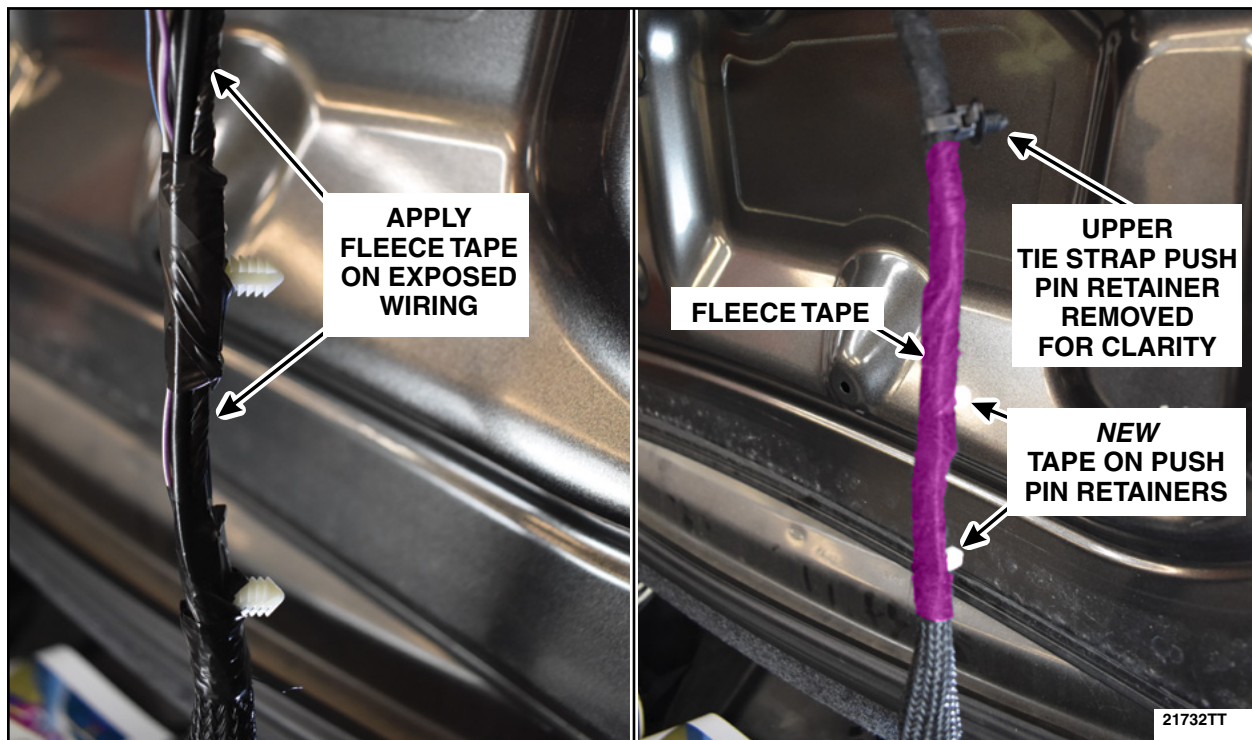

FIGURE 53
72. Wrap the remaining exposed wiring starting at the first new tape on push pin retainer after the mesh sleeve up to the upper tie strap push pin retainer using Tesa® 51608 PET Fleece or equivalent fleece tape. See Figure 53.